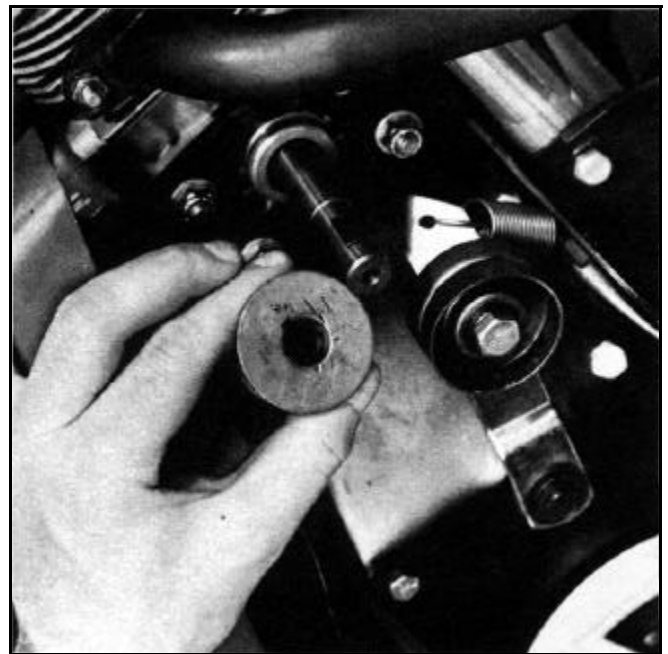

Figure 64 0217-036
3. Slide replacement crankshaft pulley on the crankshaft. Be certain to align the keyway (slot) in the crankshaft pulley with the location key on the crankshaft. Should the location key on the crankshaft show signs of wear, replace (Figure 64).